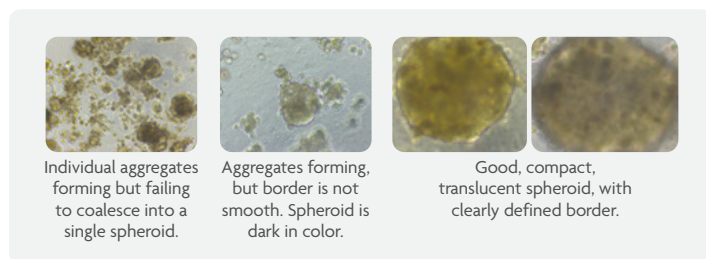

Figure 1. Images for spheroid formation.
11. The recommended culture time for PHH spheroids is 21 days. See Figure 1 for representative images of ideal spheroid formation.